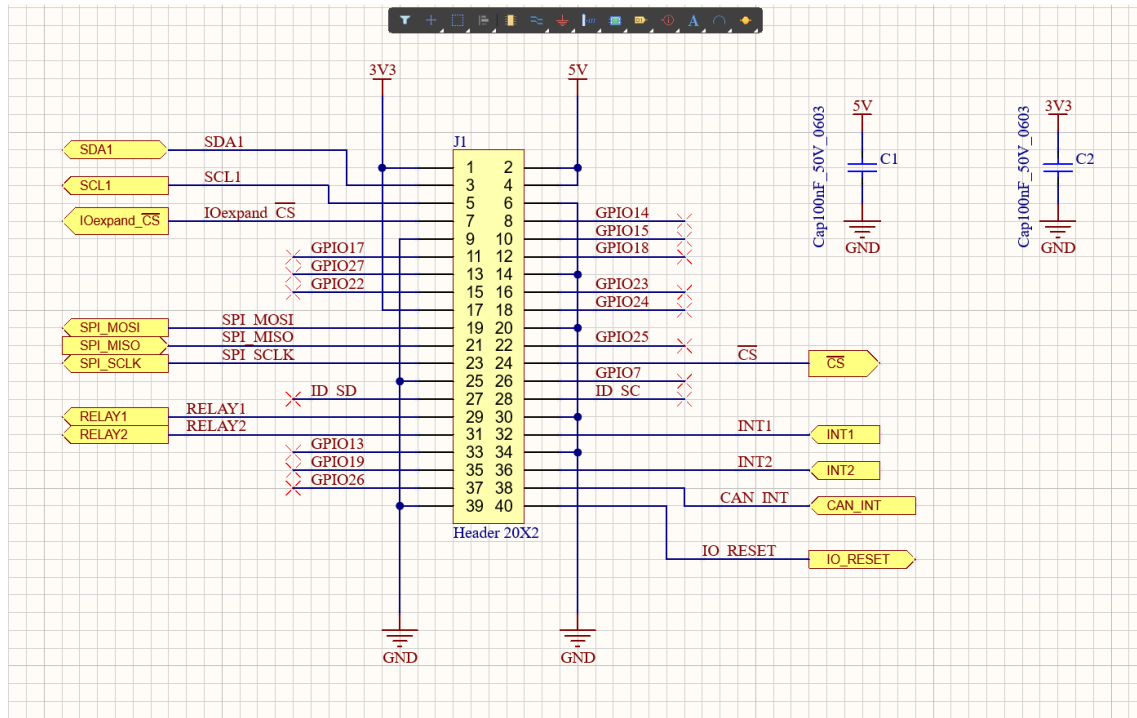

Figure 8. Completed Schematic as reference
15. Let's start by connecting Pin 1 to Pin 17 of the header, and then place a power port. See *Figure 8* as reference to how the completed schematic will look.